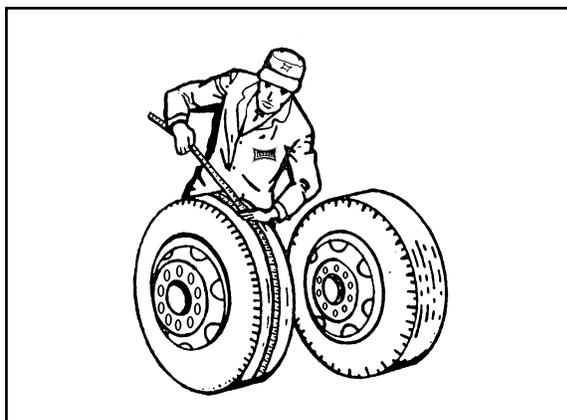

Fig. 4-17 Measuring Tape Method
a. Tape Measuring Method: Measure around each tire on the tread surface. A maximum difference of $3/4$ " is allowed between the two mating tires of a dual (**See Figure 4-17**).